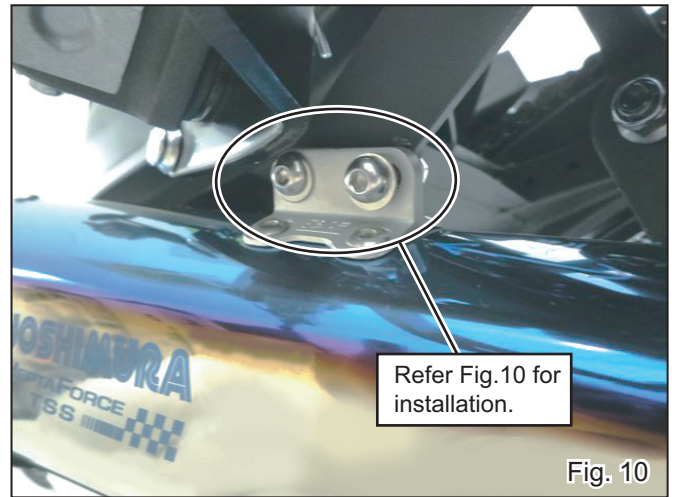

Fig. 10
- 9) Fix Silencer Assy to Silencer Bracket with 2 of each Button Bolt M6x20, Washer M6x13, Flange Nut M6. (See Fig. 10 & 11) Tighten bolt by hand only at this stage.